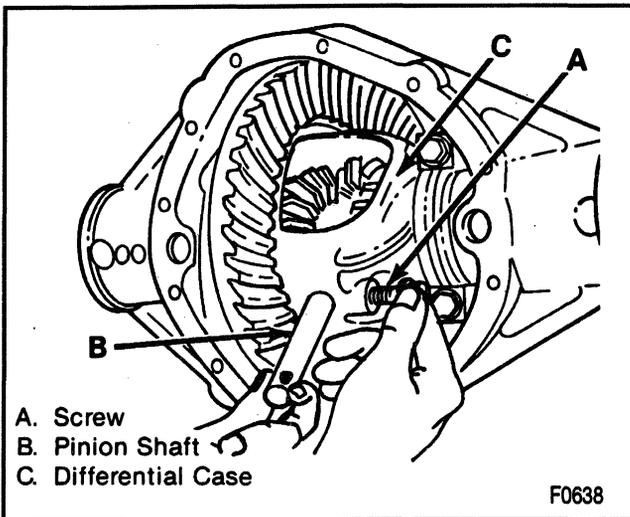

Figure 7—Removing/Installing the Pinion Shaft
- Keep the pinion shaft partially withdrawn (Figure 7).